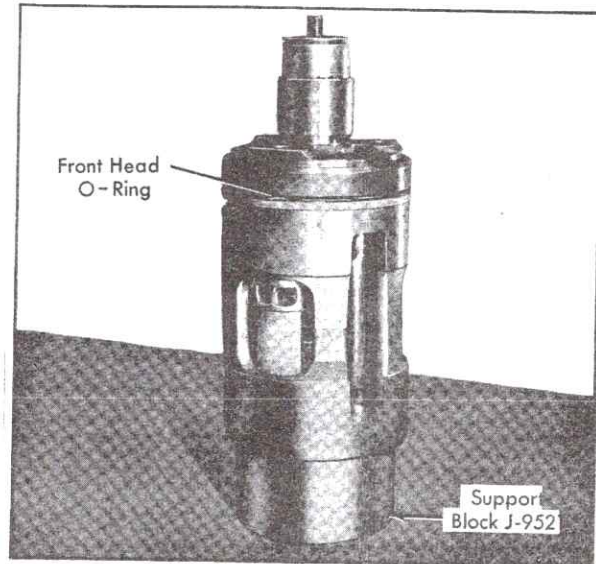

Fig. 1-67 Front Head O-Ring Installed
8. Generously lubricate angled groove at lower edge of front head casting with 525 viscosity refrigeration oil and install new O-ring in groove, Fig. 1-67.